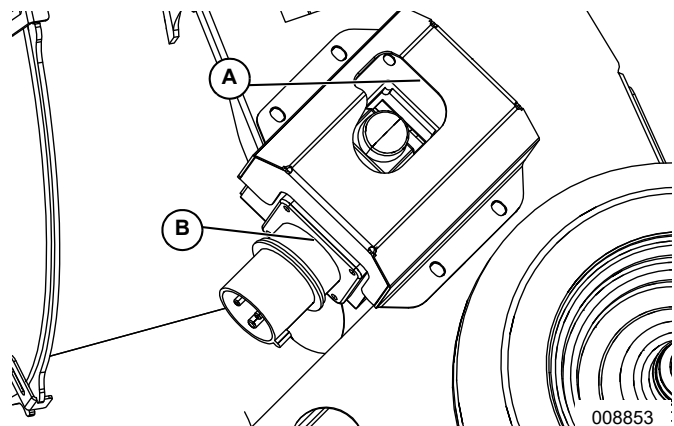

Figure 2-3. Electrical Connection
1. See **Figure 2-3**. Verify switch (A) is in OFF position.